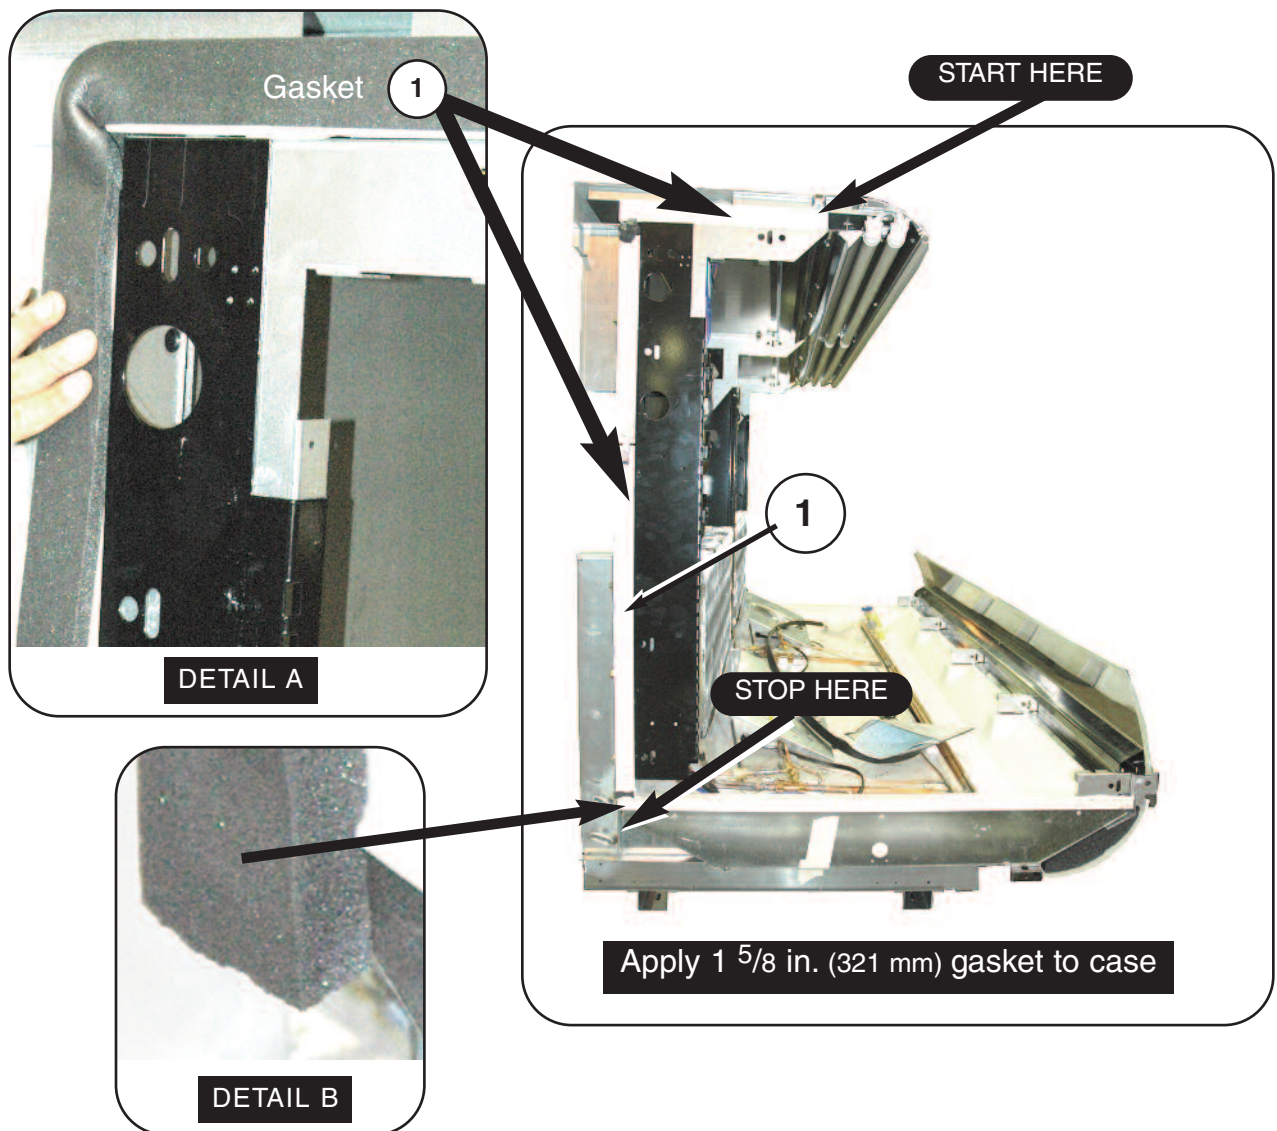

Figure 2. Apply 1 ⁵/₈ in. Gasket to the Merchandiser
- 2** Apply 1 ⁵/₈ in. (321 mm) Gasket (Item – 1) to white foam panel beginning from the top, front canopy, down to foam bottom, as shown in **Figure 2**.